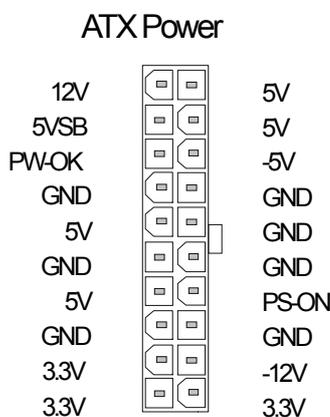

FIG1
1. Connect the 20 pin connector to the ATX power connector. See FIG. 1.